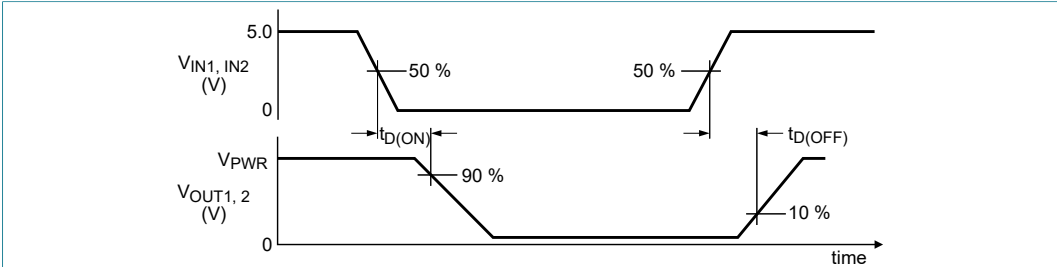

Figure 6. Output delay time
- [3] Output delay is the time duration from the midpoint of the IN1 or IN2 input signal to the 10 % or 90 % point (dependent on the transition direction) of the OUT1 or OUT2 signal. If the output is transitioning high to low, the delay is from the midpoint of the input signal to the 90% point of the output response signal. If the output is transitioning low to high, the delay is from the midpoint of the input signal to the 10 % point of the output response signal. See Figure 6.